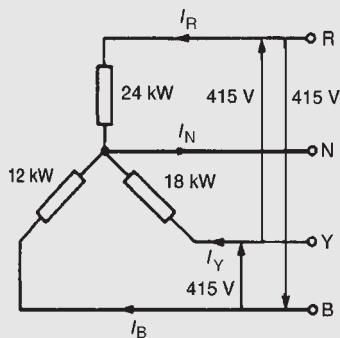

Figure 20.7
**Problem 4.** A 415 V, 3-phase, 4 wire, star-connected system supplies three resistive loads as shown in Fig. 20.7. Determine (a) the current in each line and (b) the current in the neutral conductor.